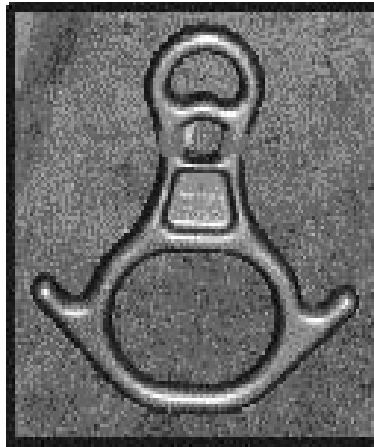

Figure 2-9. Rescue "8" Descender
h. RESCUE "8" DESCENDER (Figure 2-9).
(1) NSN: N/A